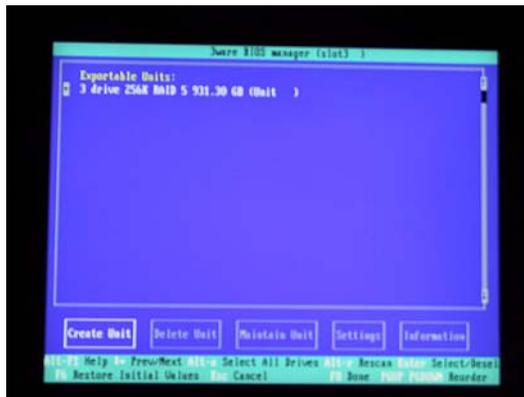

Figure 2-15
- 14) At this point, you will be presented with a summary description of the RAID array you have defined (Figure 2-15).